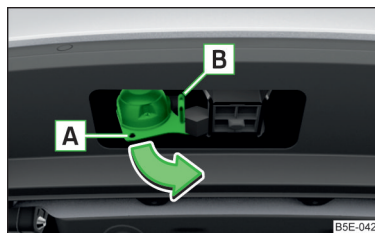

Fig. 178
- Grip the 13-pin socket at point **A** and swing out in the direction of the arrow » Fig. 178.
- Plug the trailer cable into 13-pin socket **A** » Fig. 178.
- Unhook the breakaway cable of the trailer from the security eyelet **[B]** » Fig. 178.
- Grip the 13-pin socket at point **[A]** and swivel in the opposite direction to the arrow » Fig. 178.